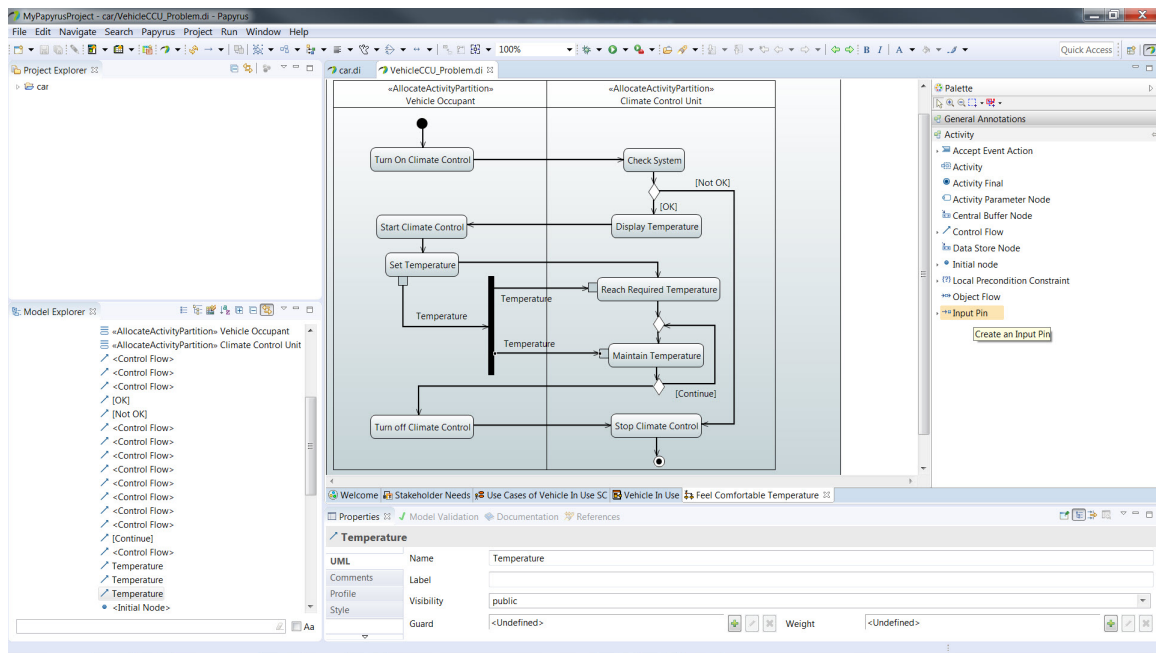

Figure 59: Temperature Input
28. Now we need to provide the *Temperature* as input to both the *Reach Required Temperature* action and the *Maintain Temperature* action. To do this go to the *Activity* palette on the right and Click on **Input Pin** then Click on the *Reach Required Temperature* action and an input pin will be created. Position this pin on the left side of the action if not already there. Repeat the procedure to create an input pin on the *Maintain Temperature* action. Now create control flows between the fork node and each input pin you just created. Your activity diagram should look like (figure 59) and our example activity diagram is complete.
We now analyze the final activity diagram in (figure 59) and consider the flow of objects and control across the activity partition (swimlane) and we see that there is a flow of control as the vehicle occupant controls the climate control system and there is a flow of status information about the system such as the temperature. So now let's go back and update our *Vehicle In Use* internal block diagram and add these flows. First, however, let's create a package to hold the *Control* and *Status* flows that we will use in the diagram.